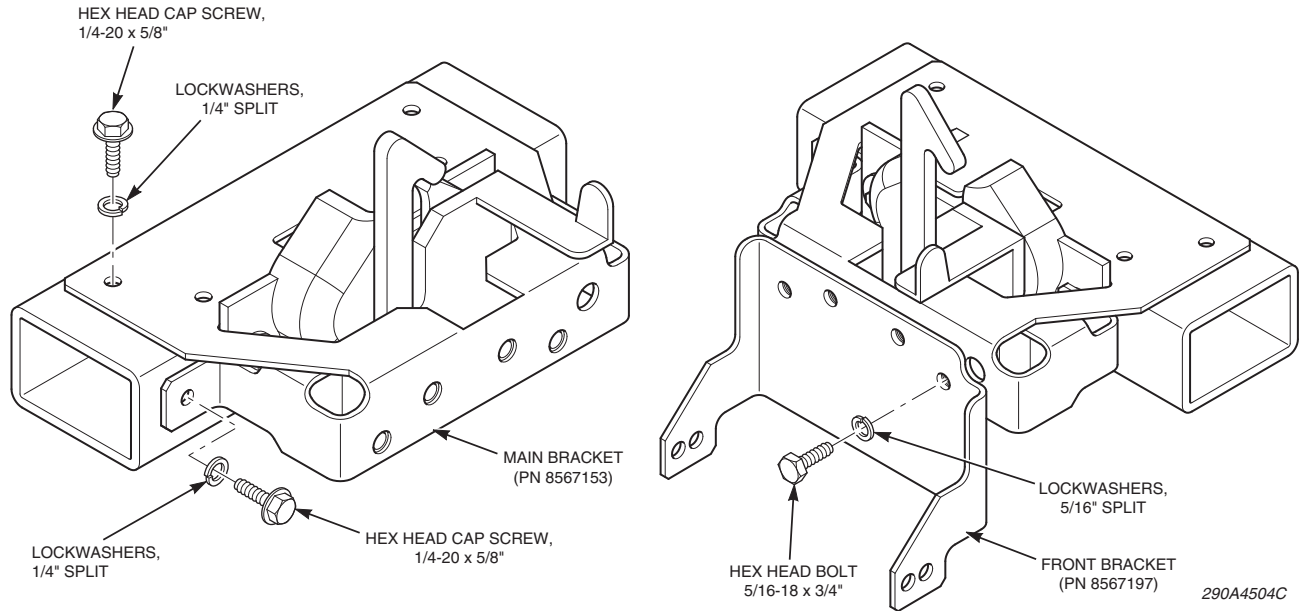

Figure 3: Main bracket secured over hood latch (left) and front bracket secured to main bracket (right)
1. Secure the main bracket to the vehicle using five 1/4"-20 x 5/8" thread-forming screws and split lockwashers (*Figure 3* on page 5).
2. Attach the front bracket (PN 8567197) to the main bracket (PN 8567153) with the four 5/16-18 bolts and split lockwashers (*Figure 3*).